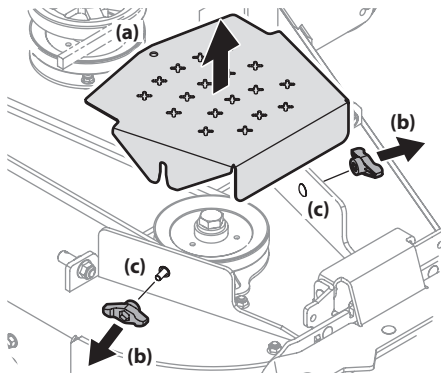

Figure 4-22
3. To remove the belt covers (a), remove the wing knobs (b) from the carriage screws (c) securing it to the deck. See Figure 4-22.
4. The speed nut should hold the carriage screw (c) and tab bolt in place, if not re-install as shown in Figure 4-22.